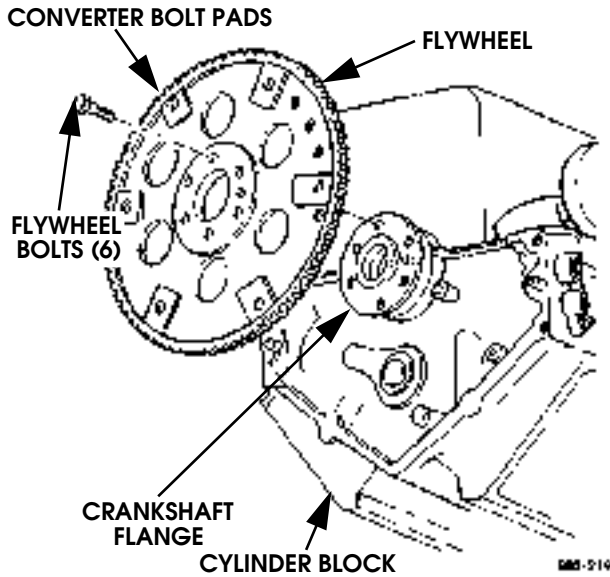

Figure 2-165: Flywheel Installation
11. Install flywheel on flange (Figure 2-165). Be sure converter bolt pads are facing out and away from engine.